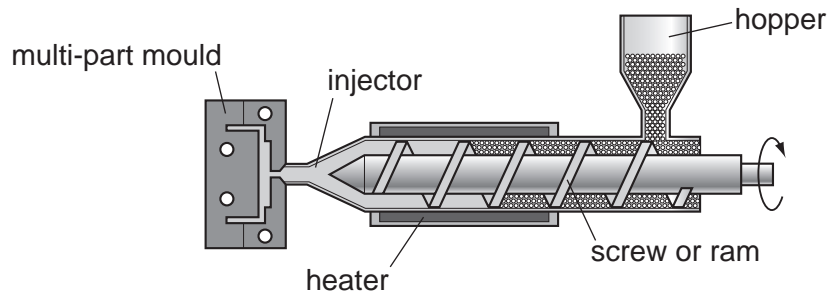

Fig. 2
- 9 Fig. 2 shows a cross-sectional view of an injection moulding machine.